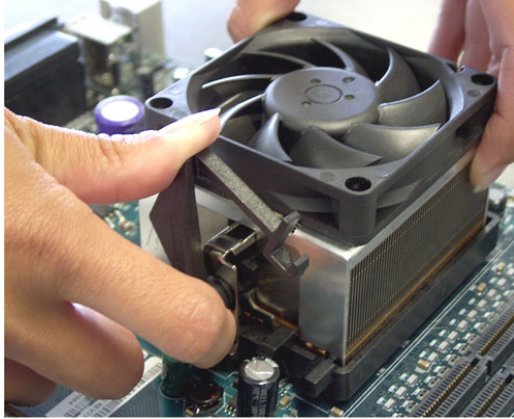

Figure 18. Turning the Cam Lever
19. Carefully turn the cam lever to lock into place. (See Figure 18.)